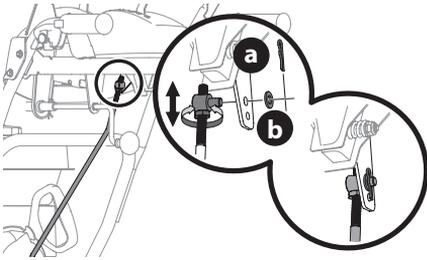

Figure 56
- Remove cotter pin (a) and washer (b) from adjustment ferrule on shift rod and pull it out from shift lever (Figure 56).